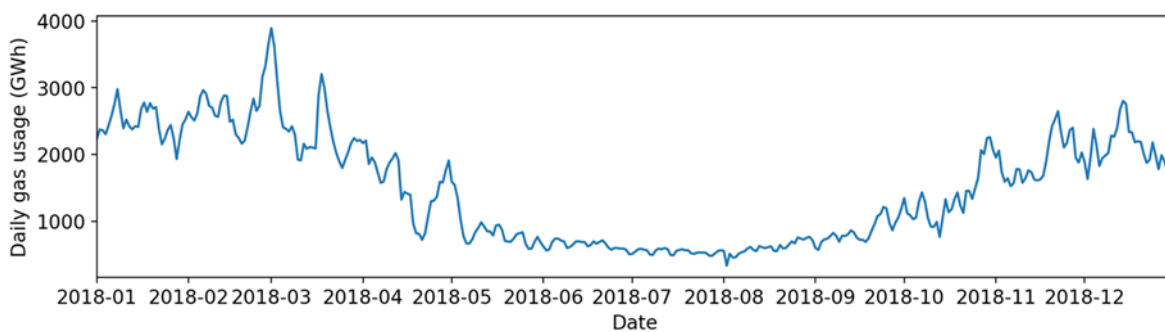

Figure 2: GB gas demand
- d) Referring to Figure 2, do you think Pumped Hydro likely to be a good future option for 'storing' heat? If not, suggest another storage type which may be appropriate in future. Explain your reasoning. [3 marks]